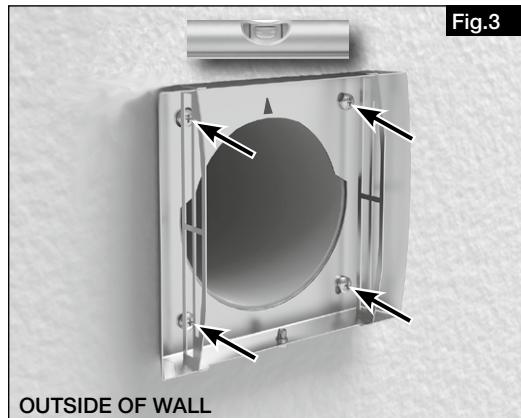

Fig.3
4. Mark and drill the hole pattern (see Fig. 3).
5. Align frame horizontally, with the arrow pointing up, (see Fig. 3) and screw to the wall (use stainless steel screws).